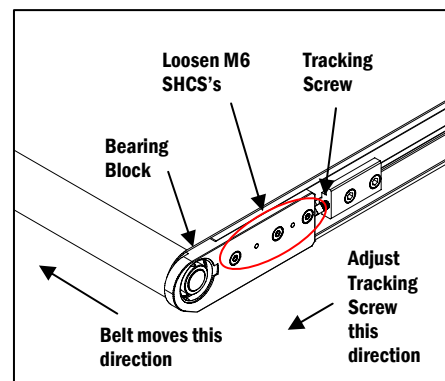

Figure 3
b. With the conveyor running, rotate the M6 Square Head Tracking Screw toward the Drive Pulley on the side of the conveyor where the belt is riding too close – this will set the Driver Assembly at an angle and move the belt away from that side (Figure 3).